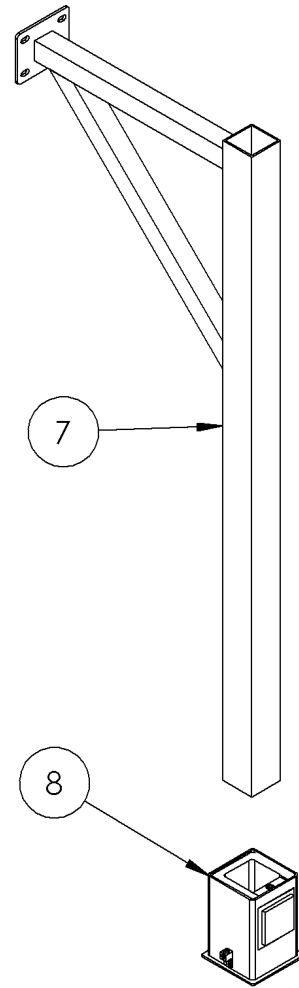

Fig. 5
1. Insert the vertical post (7) into the installed anchor (8), as shown in **FIGURE 5**. To make assembly easier, the basketball game can be assembled facing away from the pool and will be turned around once assembly is complete. (For anchor installation information see 06-674, included with anchors)